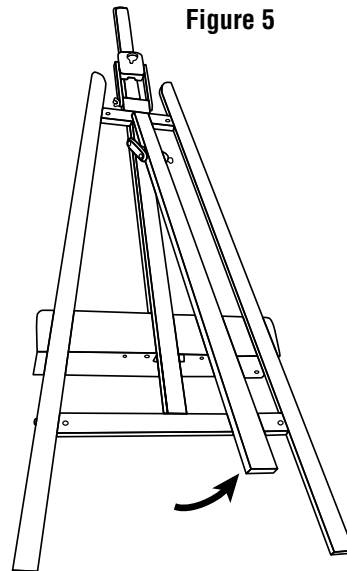

Figure 5
- 5** Grip main easel and canvas support assembly together with two hands and carefully turn upside down so that the brass track is now facing the floor, as shown in Figure 5. Lift back leg out of the way for the time being and secure in position by tightening the wing nut.